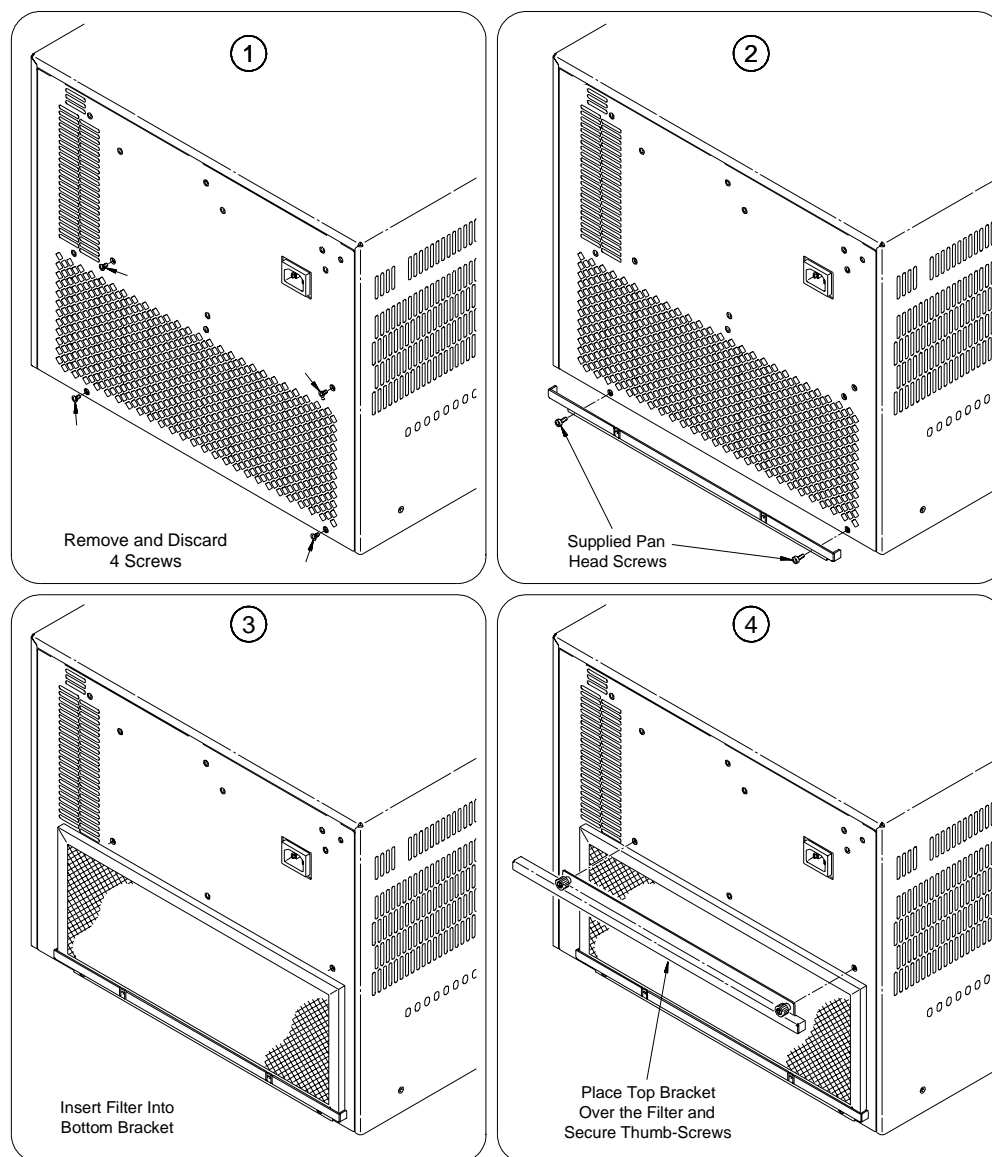

Figure B-15. Installing the Optional Air Filter Kit
An optional air filter kit can be purchased for the HP E840xA mainframe. Figure B-15 shows how to install the kit.
1. Remove the four screws from the rear panel as shown in Figure B-15.